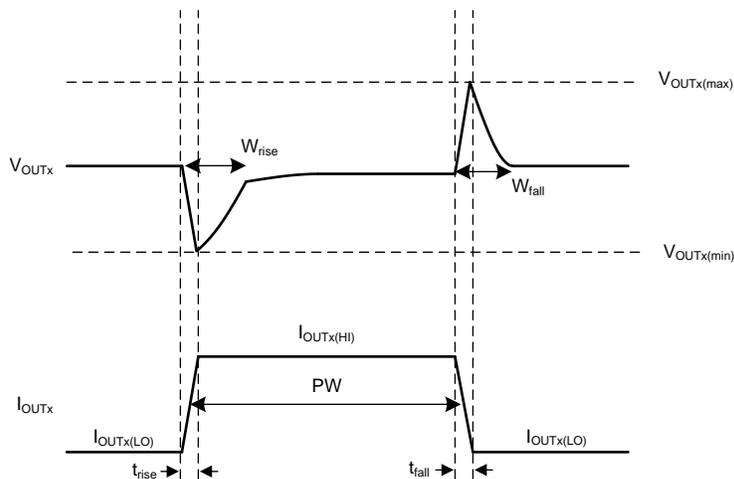

图 51. Simplified Load Transient Waveform
The transient response peaks ($V_{OUTx(max)}$ and $V_{OUTx(min)}$) are improved by using more output capacitance; however, doing so slows down the recovery time (W_{rise} and W_{fall}). 图 51 shows these parameters during a load transient, with a given pulse duration (PW) and current levels ($I_{OUTx(LO)}$ and $I_{OUTx(HI)}$).